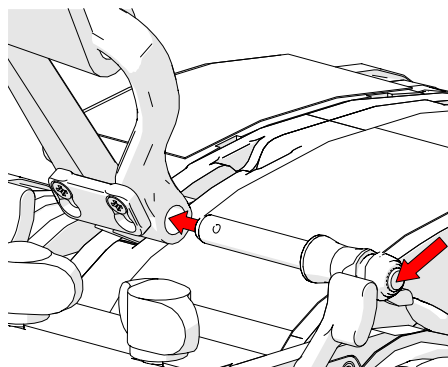

Fig. 79 - Insert pin
4. Align the tether attachment point and shackle. Insert the pin while pressing the pin's release button (Fig. 79).